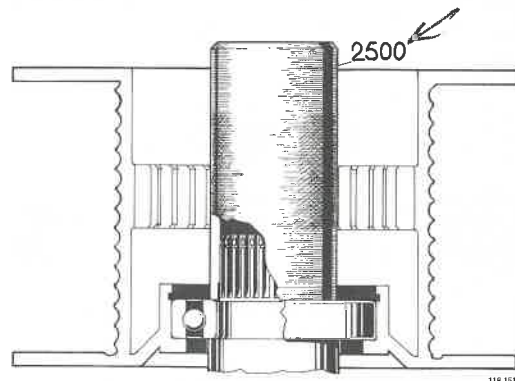

Fig. 92-88. Fitting the cable drum
28. Lift the cable drum, by using 2628. Remove 2628 and drive down the drum with 2500, see Fig. 92-88.